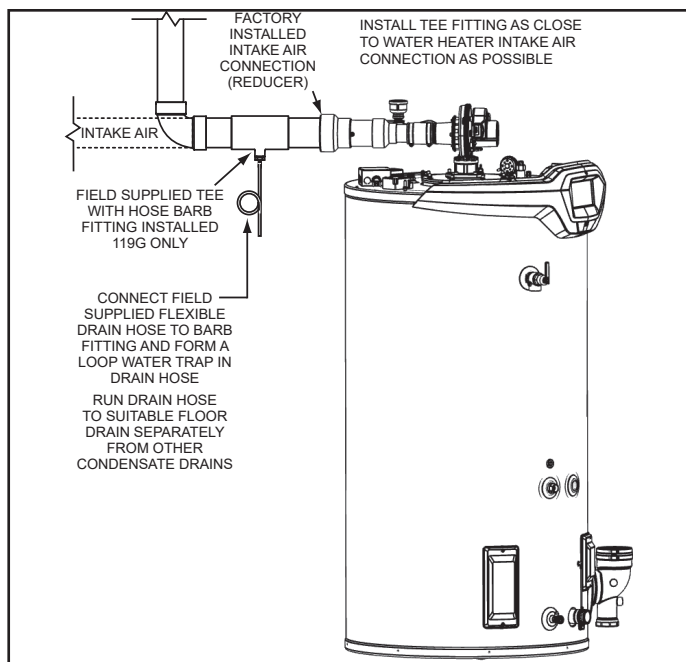

Figure 28. Intake Air Condensate Tee Installation
8. A field-supplied condensate tee fitting and drain hose must be installed in the intake-air piping near the water heater in colder climates with heavy snow accumulations and in areas that regularly experience high humidity. The drain hose must be routed to an adequate floor drain separate from any other condensate drain hoses. See **Figure 28** (page 33).
Installations with any of these conditions are required to provide a moisture drain with a trap that flows to a waste drain. See **Figure 28** (page 33) and **Figure 46** (page 40) through **Figure 52** (page 43). A horizontal section of the air-inlet pipe near the heater should include a 4" x 4" x 1/2" (119 gallon) and 3" x 3" x 1/2" (60/100 gallon) tee and a hose barb fitting to drain the water. The tee should be as close to the heater as is practical. The drain tubing in any installation should have a loop trap and flow to an appropriate waste drain. The air-intake drain line must be entirely separate from the exhaust vent outlet condensate drain line.